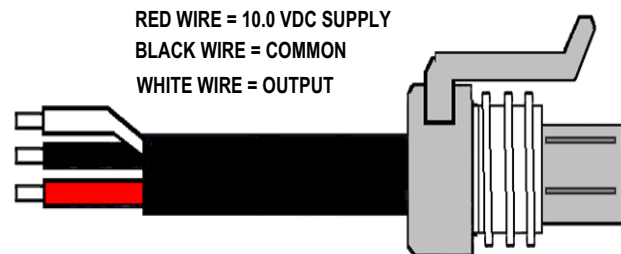

FIGURE 4 - WIRE HARNESS ASSEMBLY
3. Attach wiring harness plug to transducer. Route sensor wires with the discharge pressure switch wires back to control box. Run wires through the bushing (provided), using knock out located near the control in the bottom of the unit control box. See Figure 4.